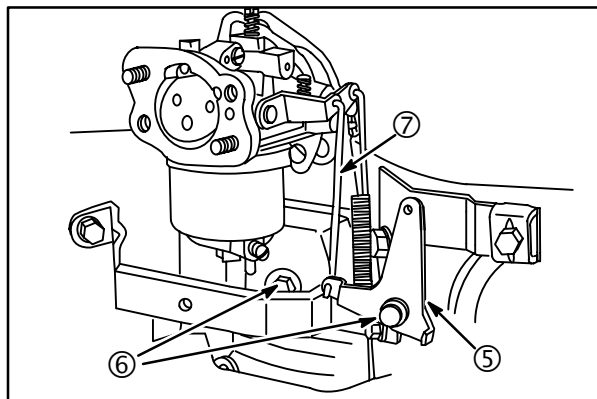
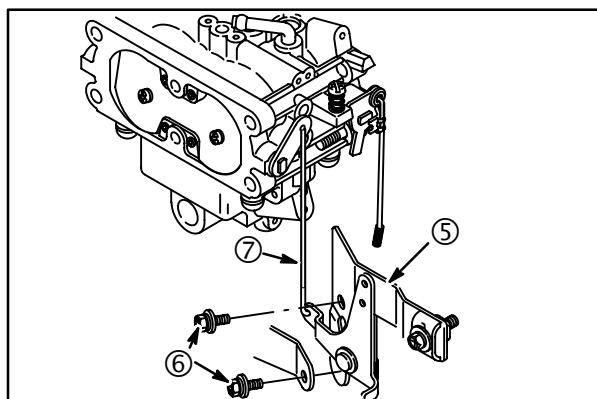

Fig. 27
Fig. 28
3. Connect choke link (7) to choke lever and install choke control bracket (5), **single barrel carburetor, Fig. 27, two barrel carburetor, Fig. 28**. Torque screws (6) to **65 in. lbs. (7 Nm)**.